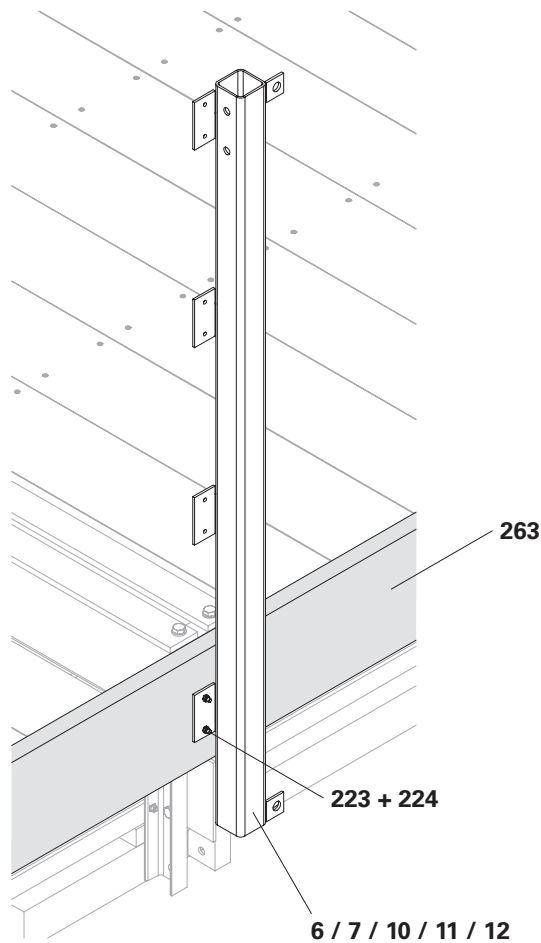

Fig. B2.08
3. Screw tight with F.H. bolt DIN 603 M8 x 50 (**223**) and nut M8 (**224**). (Fig. B2.08)